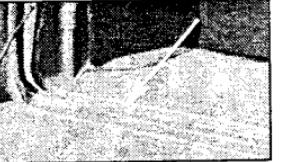

Fig. 1
2. Lower the vehicles tail gate to expose the rear threshold trim plate. Remove the threshold plate by removing the screws attaching it to the vehicle floor (fig. 1).